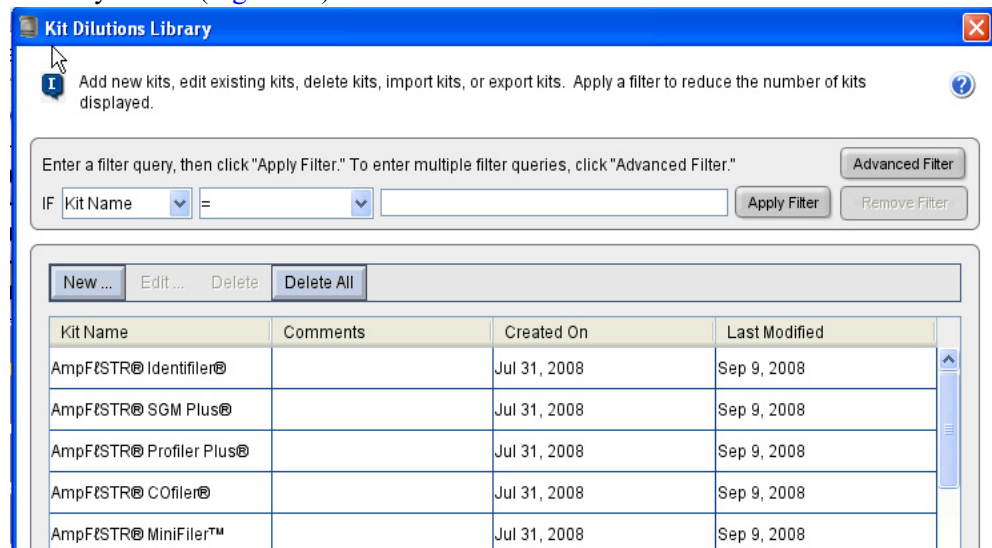

Figure 30 Kit library
1. In the toolbar, select **Tools** ► **AmpF ℓ STR Kit Library** to open the Kit Dilutions Library screen (Figure 30).